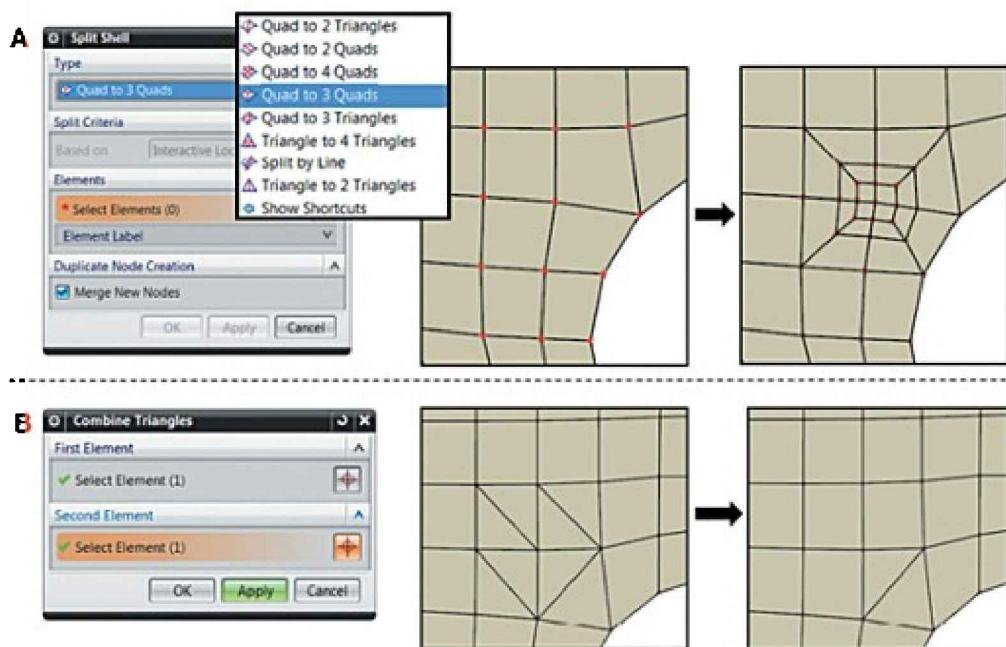

Figure 3.47. Editing elements
- Use the **Split Shell** command to split 2D quadrangular and triangular elements into several triangular elements using one of eight methods (Figure 3.47, A). This command is used to replace quadrangular elements that do not fulfill quality criteria with
- Use the **Combine Triangles** command to combine two selected adjacent triangular elements into one quadrangular element (Figure 3.47, B).